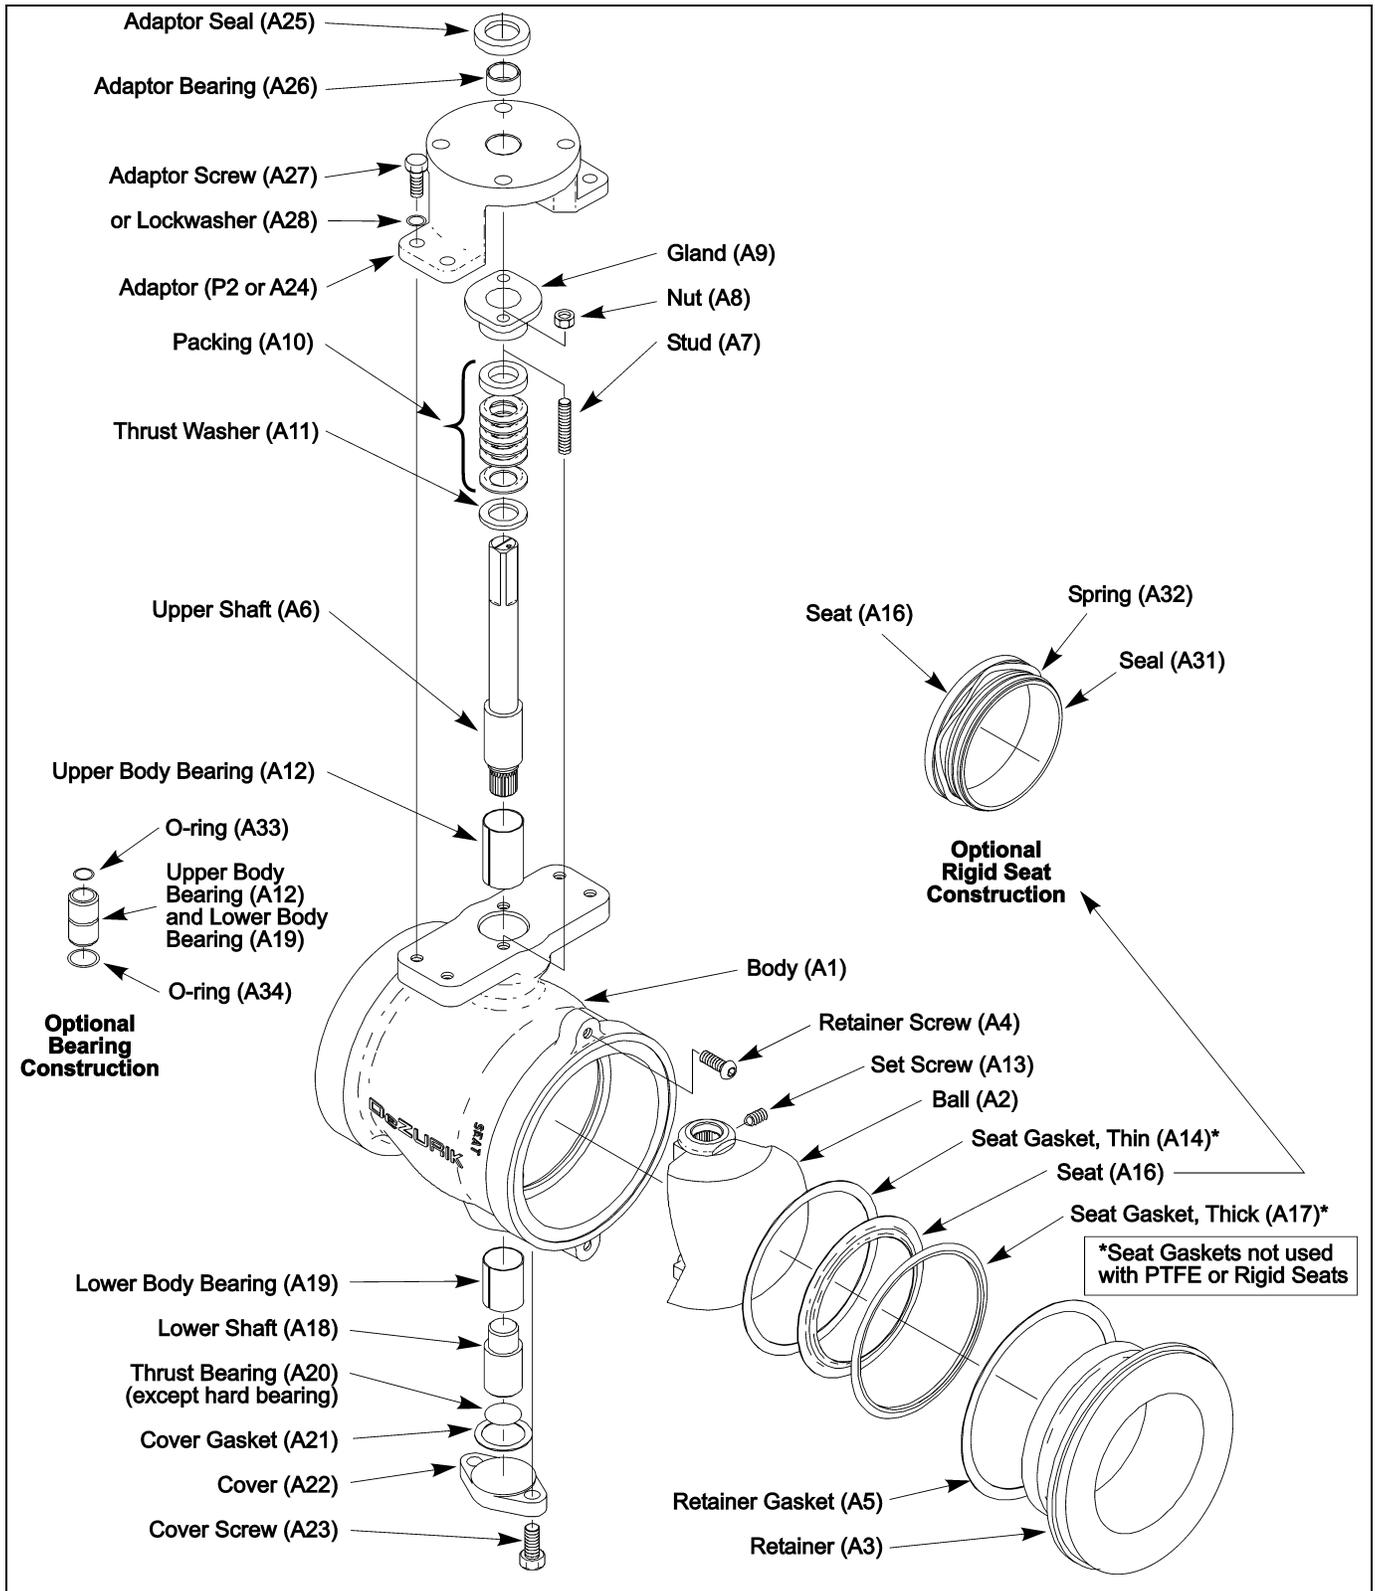
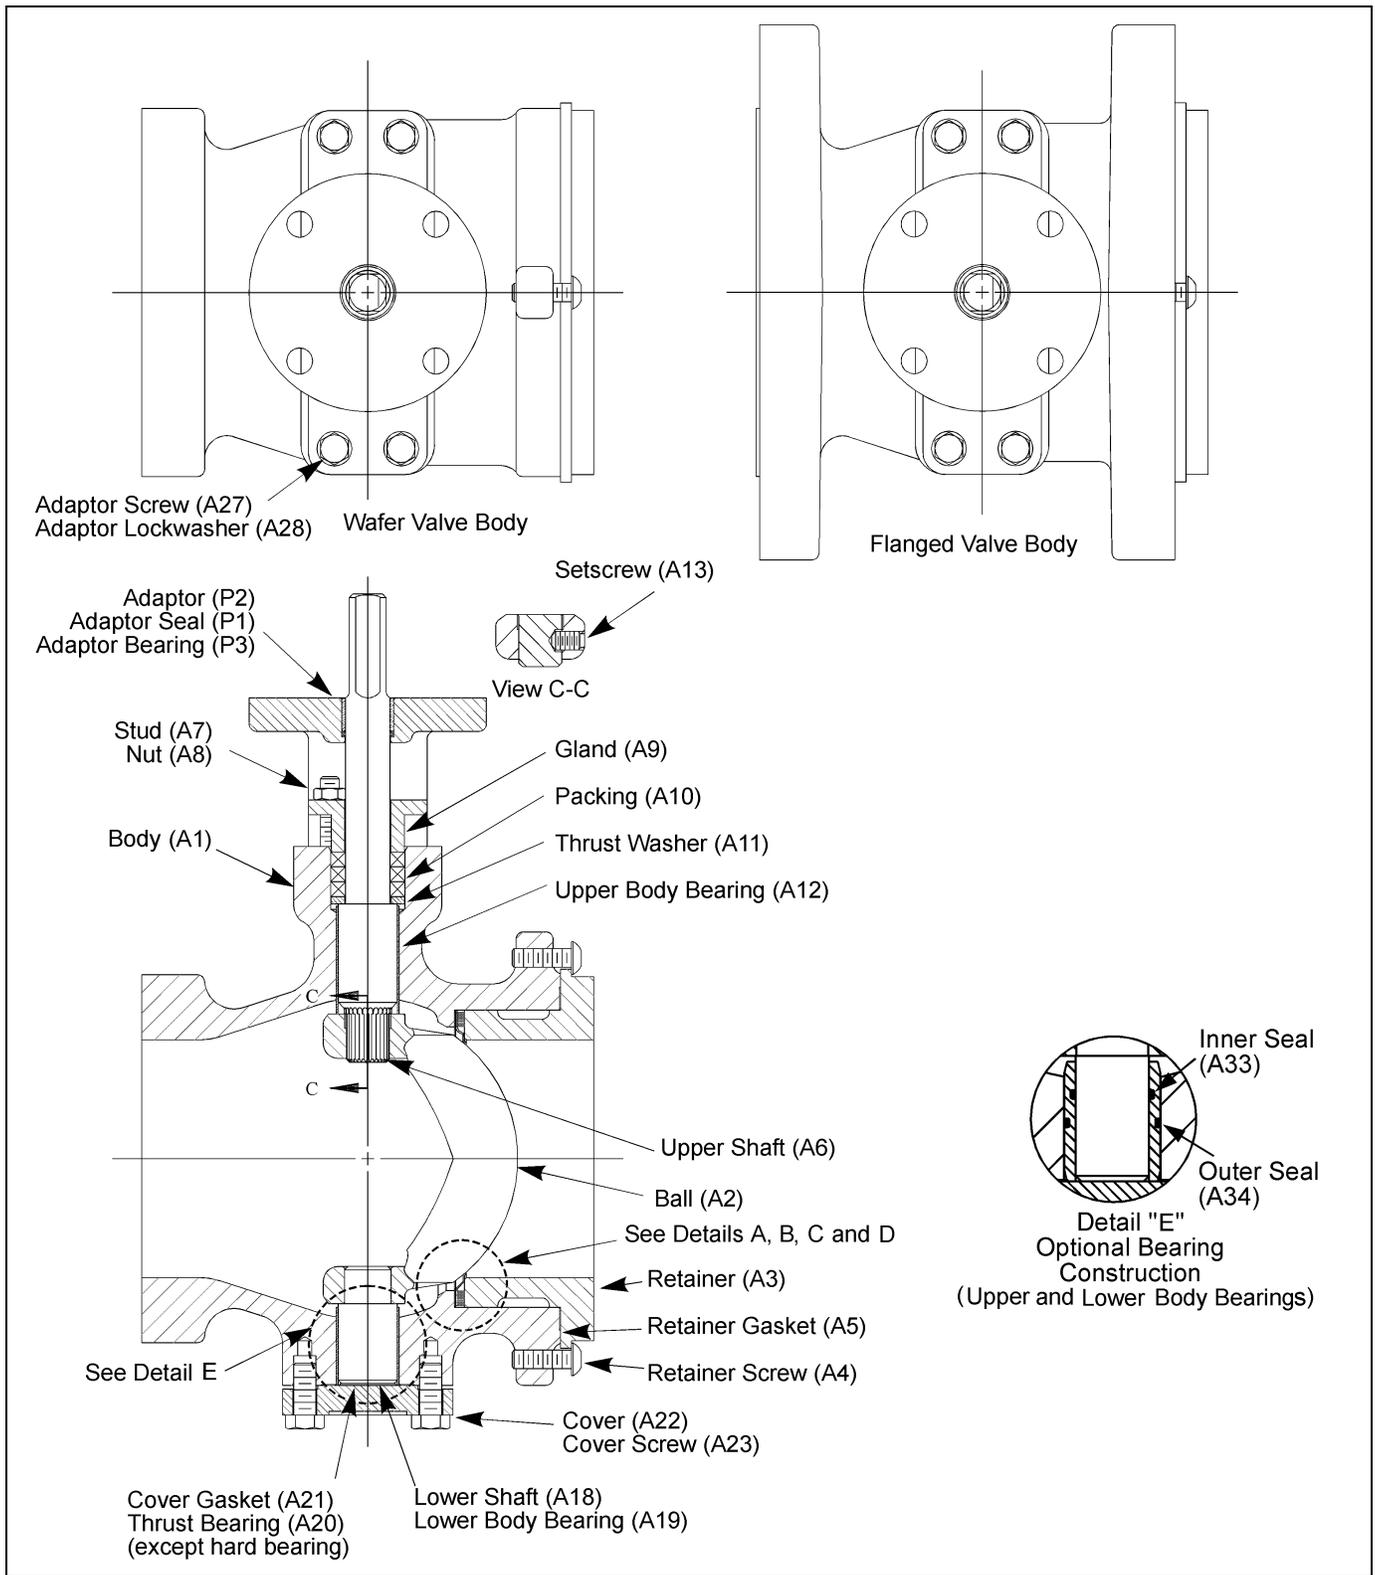
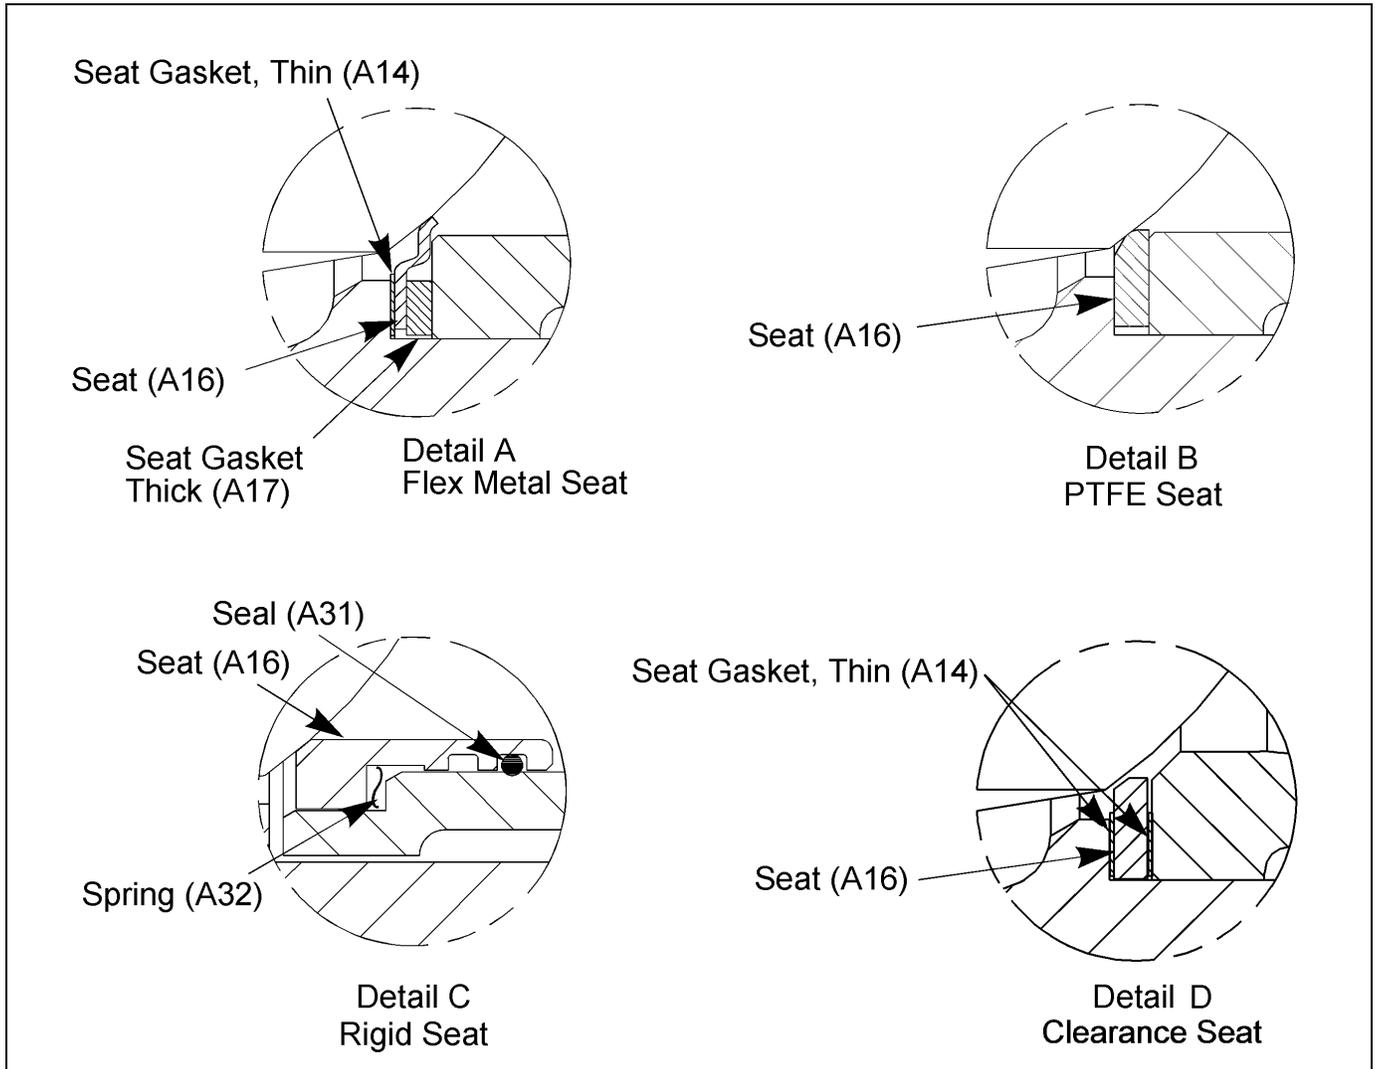

Figure 1 – Component Identification Disassembled
Figure 2A – Component Identification Assembled
Figure 2B – Component Identification (Seat Details)
The shaft seal consists of packing in the packing chamber of the body. The packing is contained and compressed by the packing gland. If the packing leaks, tighten the adjustment nuts (A8) on top of the packing gland (A9), shown in Figure 2A. Tighten the nuts evenly and gently — just enough to stop the leakage. Over-tightening will cause excessive operating forces, and will decrease the life of the packing.
See Figure 1, Figure 2A and Figure 2B for parts identification.
- b. Place the seat against the closed ball as shown in Figure 2B, Detail A.
- a. Place the seat (A16) into the bore of the body with the beveled side of the seat against the closed ball as shown in Figure 2B, Detail B.
- a. Place, in the following order, the thin gasket (A14), the seat (A16), and another thin gasket (A14) into the seat bore in the body as shown in Figure 2B, Detail D.
- d. Insert the seat (A16) into the retainer (A3). See Figure 2B, Detail C.
The valve may be disassembled and reassembled by following the steps in the next two sections. All parts should be inspected for wear, and worn parts should be replaced. Refer to Figures 1 and 2 for component identification.